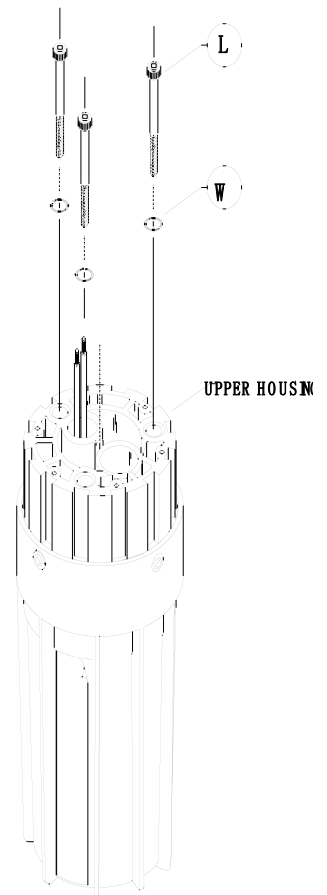

FIGURE 13
8) Turn the assembly over as shown in Figure 13.
9) Install the Lock Washers (Part W) and Screws (Part L) (Fig. 13).